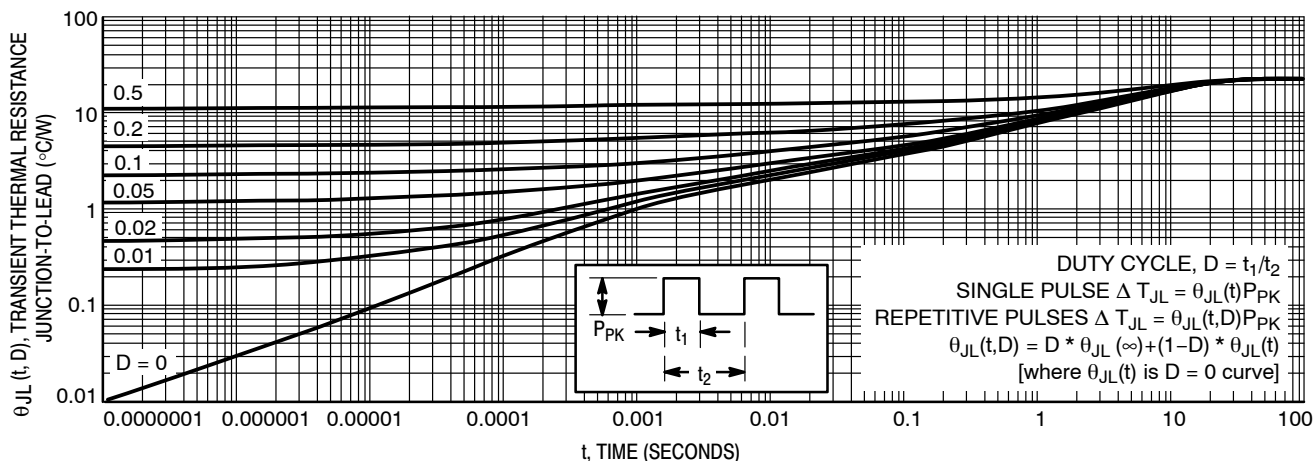
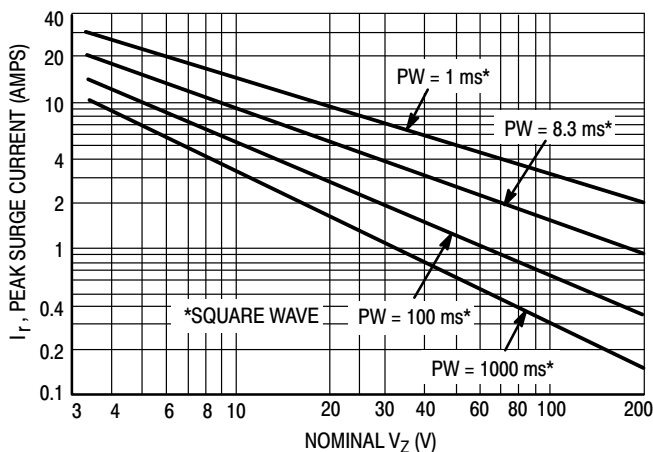
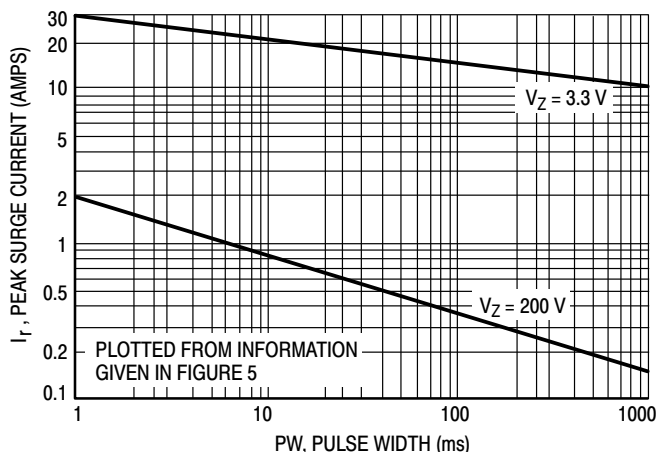

Figure 4. Typical Thermal Response
Figure 5. Maximum Non-Repetitive Surge Current
Figure 6. Peak Surge Current versus Pulse Width
- SURGE CURRENT (I_R):** Surge current is specified as the maximum allowable peak, non-recurrent square-wave current with a pulse width, PW, of 8.3 ms. The data given in Figure 5 may be used to find the maximum surge current for a square wave of any pulse width between 1 ms and 1000 ms by plotting the applicable points on logarithmic paper. Examples of this, using the 3.3 V and 200 V zener are shown in Figure 6. Mounting contact located as specified in Note 2 ($T_A = 25^\circ\text{C} + 8^\circ\text{C}, -2^\circ\text{C}$).
- SURGE CURRENT (I_P):** Surge current is specified as the maximum allowable peak, non-recurrent square-wave current with a pulse width, PW, of 8.3 ms. The data given in Figure 5 may be used to find the maximum surge current for a square wave of any pulse width between 1 ms and 1000 ms by plotting the applicable points on logarithmic paper. Examples of this, using the 3.3 V and 200 V zener are shown in Figure 6. Mounting contact located as specified in Note 7 (T_A = 25°C +8°C, -2°C).
ΔT_{JL} is the increase in junction temperature above the lead temperature and may be found from Figure 4 for a train of power pulses or from Figure 1 for dc power.
Data of Figure 4 should not be used to compute surge capability. Surge limitations are given in Figure 5. They are lower than would be expected by considering only junction temperature, as current crowding effects cause temperatures to be extremely high in small spots resulting in device degradation should the limits of Figure 5 be exceeded.